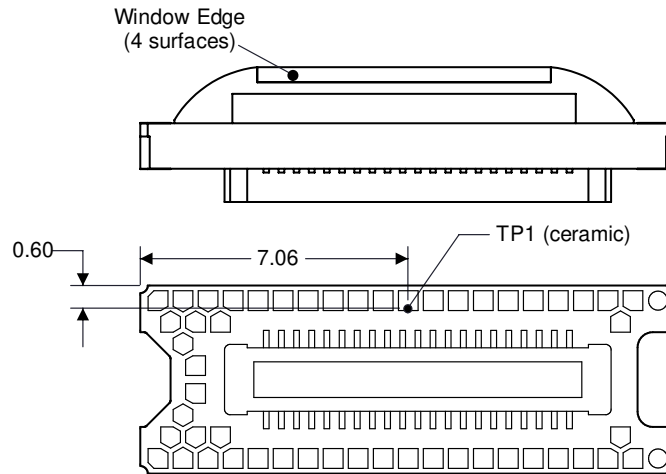

図 7-1. DMD Thermal Test Point
- T_{CERAMIC} = Measured ceramic temperature (°C), TP1 location in 図 7-1
- Q_{ARRAY} = Total DMD power; electrical plus absorbed (calculated) (W)
- $Q_{\text{ELECTRICAL}}$ = Nominal DMD electrical power dissipation (W)
Between the two extremes (ignoring for the moment color and any image processing that may be applied to an incoming image), the Landed Duty Cycle tracks one-to-one with the gray scale value, as shown in Figure 7-1.